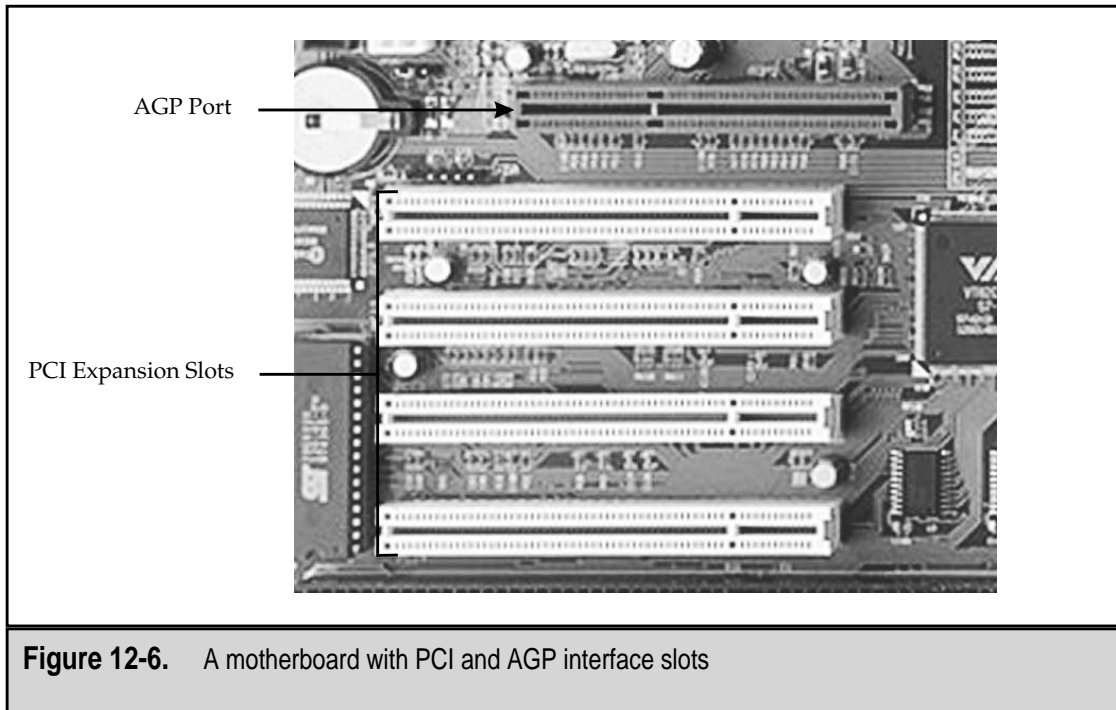

Figure 12-6. A motherboard with PCI and AGP interface slots
- ▼ **Peripheral Component Interconnect (PCI)** Support for the PCI interface bus is included in the system chipset on all Pentium-class computers. PCI is commonly used for 2D graphics cards, sound cards, network interface cards, and other expansion cards that attach directly to the motherboard. Of course, a PCI card slot is required. PCI is a bus structure and as such may support a number of different devices. PCI slots, shown in Figure 12-6, are found on virtually all Pentium-class motherboards boards.
- ▲ **AGP (Accelerated Graphics Port)** This interface was designed specifically for use as a video system interface. AGP, which runs twice as fast as the PCI interface, creates a high-speed link between the video card and the PC's processor. The AGP interface is also directly linked to the PC's system memory, which makes it possible for 3D images to be stored in main memory and for 2D systems to use system RAM for some calculations. All AGP video cards require the motherboard to have an AGP slot. AGP is a port and as such can support only a single device. There is usually only one AGP slot on a motherboard (see Figure 12-6), and it is reserved for the graphics card.
white expansion slots on the motherboard, and the AGP is the short brown one typically to the right of the right-most PCI slot (see Figure 12-6 earlier in the chapter). Motherboards with a Pentium II processor or higher usually have an AGP port that can be used for video cards only. You must also be running Windows 95 OSR2 (the updated OEM version released in 1996), Windows 98, Windows NT, or Windows 2000. The fact that your PC has an AGP port most likely means you are able to install or upgrade to an AGP card.